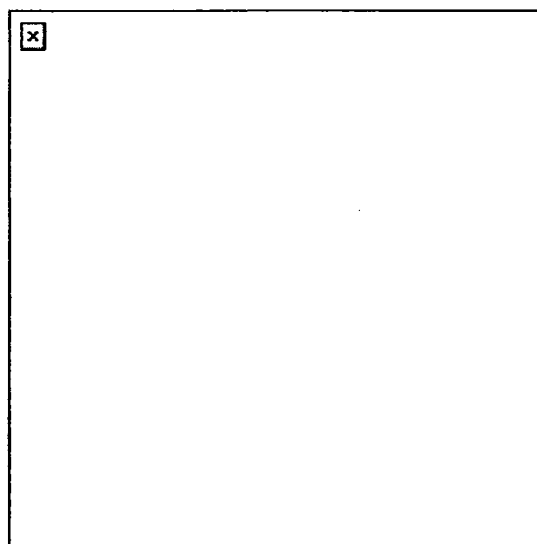

Figure 7. Reinforced position.
- (4) When reinforcing windows or loopholes, the firer places two layers of sandbags on the floor under him. This protects him from an explosion on a lower floor when the position is on the second floor or higher. He can use tables, bedsteads, or other available material to provide overhead cover from falling debris or from explosions above the position. A blast wall can be built to the rear of the position to protect the firer from explosions in the room (Figure 7).